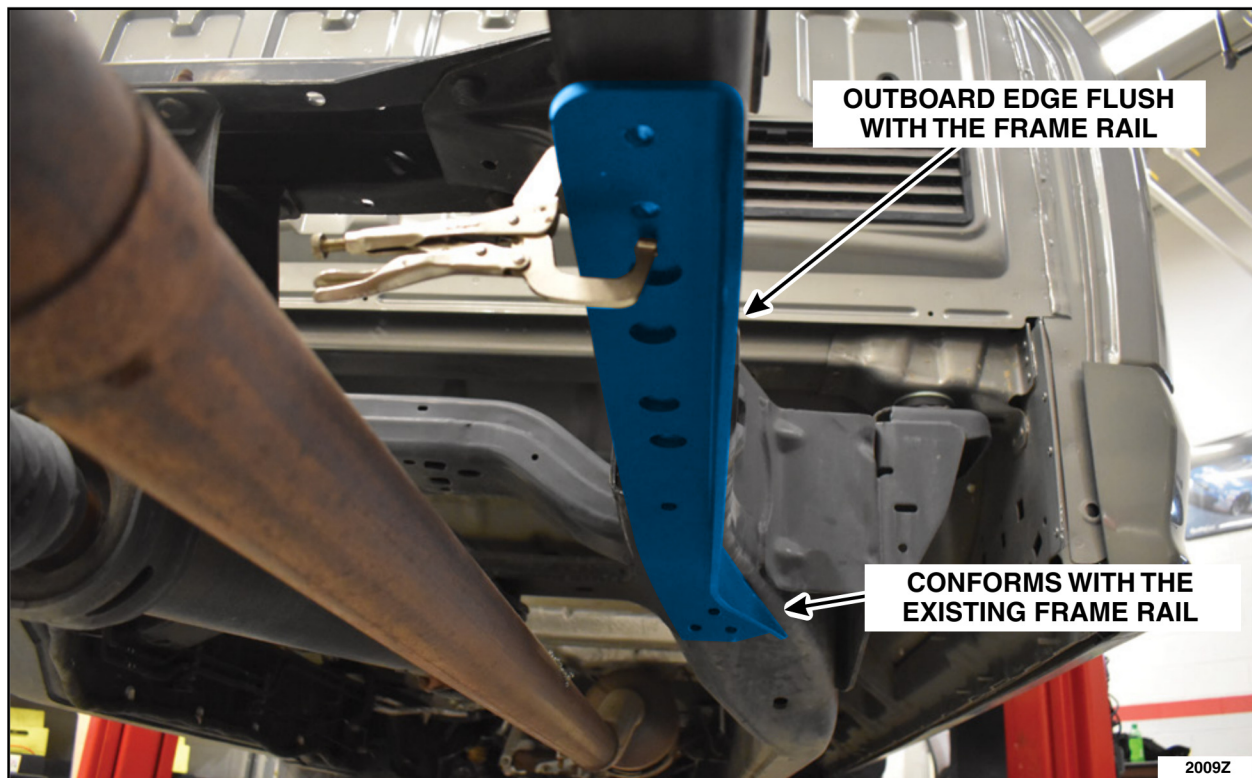

FIGURE 21
1. Using the help of an assistant, Position the lower bracket in place, up against the lower frame rail as shown in Figure 21. Align the bracket to the contour of the frame.